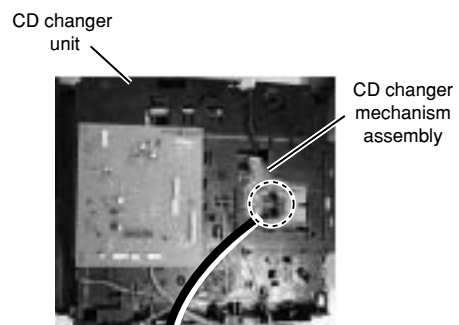
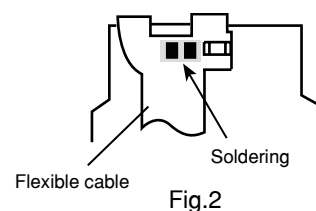

Fig.1
Fig.2
3. Solder is put up before the card wire is removed from connector Cn601 on the main board as shown in Fig.1 and Fig.2. (When the wire is removed without putting up solder, the CD pick-up assembly might destroy.)
■ Replacing the fuses (See Fig.1, Fig.3)
Bottom side Fig.1(A)
Component side Fig.1(B1)
Component side Fig.1(B2)